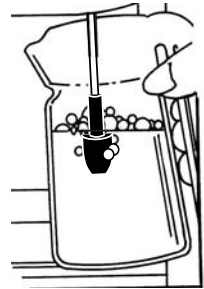

Figure 7
**REMINDER:** Before frothing, make sure the tip of the Steam Nozzle is just under the surface of the milk. Otherwise, splattering may occur. See Figure 7.